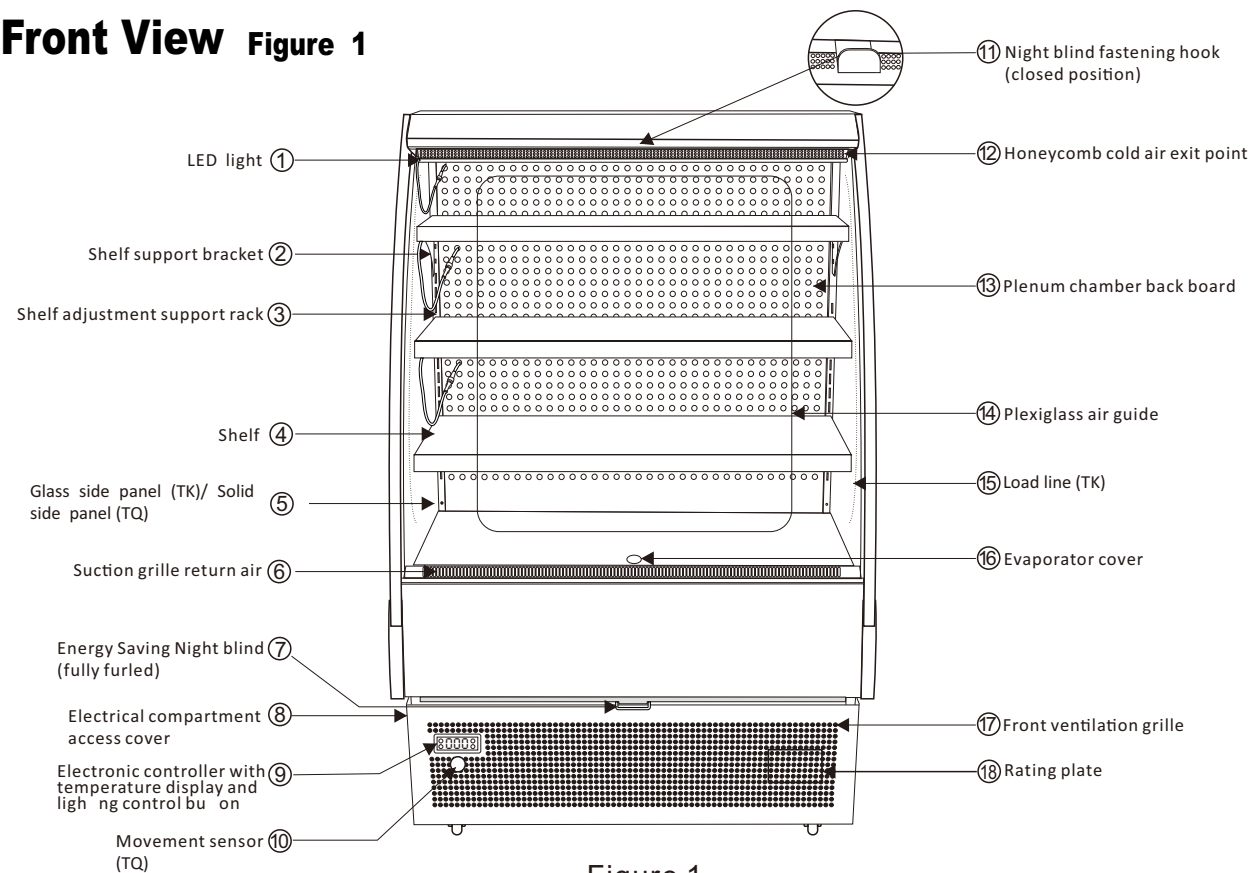

Figure 1
Front View Figure 1
- Do not cover up or obstruct any of the ventilation grilles at either the front or rear, nor the interior cold air curtain system (see Figures 1 & 2). Please be aware that warm air must be allowed to escape upwards from the rear of the appliance.
- Do not overload the power supply. Always ensure that the power supply is sufficient for the electrical requirements that are specified on the rating label. The rating label is located behind the front grille (see figure 1). If in doubt, please consult a qualified electrician. Important: never use adaptors or multi-block extension leads to connect the appliance to the mains power.
- The front and rear ventilation grilles (see Figures 1 & 2) must not be covered or obstructed under any circumstances. The appliance must not be modified by the addition of décor panels. The hot air generated to the rear of the appliance must be allowed to escape vertically upwards.
- Do not obstruct the field of view of the movement sensor shown in Figure 1.
The TQ series has an energy saving mode that allows the air temperature to rise during periods of non-use. The movement sensor (see Figure 1) mounted in the front grille detects passing customers and if no movement has been detected for 2 hours, then the lights will be switched off and the temperature set point will be allowed to rise by 2-3 degrees C. The controller will revert to Normal mode as soon as passing foot traffic is detected.